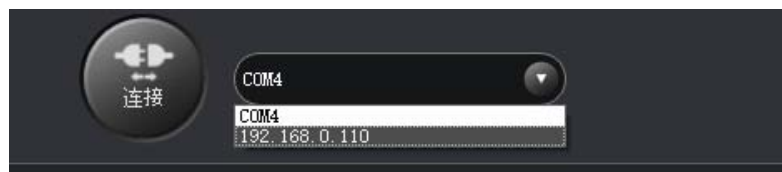

Figure 5.178 IP address of Dobot Magician
- Step 8** After 2 seconds later, select the IP address from the drop-down list on the upper left pane of the DobotStudio page and click **Connect**, as shown in Figure 5.178.